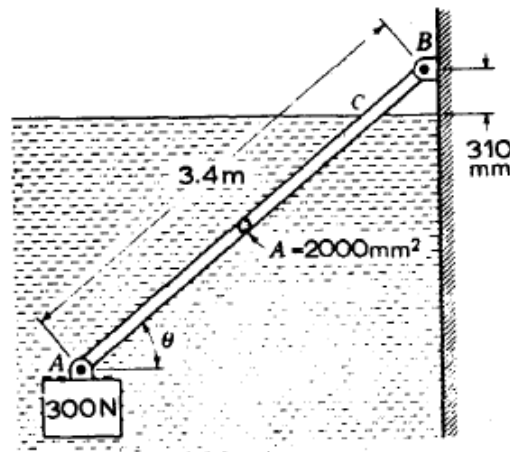

Figure 4
- 3-a) A block of wood having a volume of 0.034 m³ and weighing 300 N is suspended in water as shown in Figure 4. A wooden rod of length 3,4 m and cross section of 200mm^2 is attached to the weight and also to the wall. If the rod weight is 16 N, what will angle θ be for equilibrium?